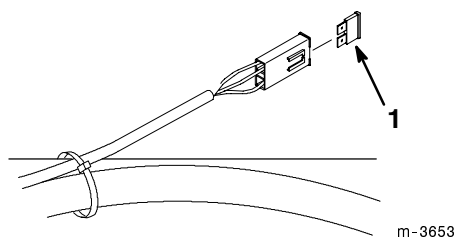

Figure 42
Fuse: Fuel Pump 10 amp, blade-type (Fig. 42)
Fuse: Engine Fuse 20 amp, blade-type (Fig. 42)
1. Locate fuses in the left rear of machine. Pull up plastic caps to gain access to fuses in holders (Fig. 42).
2. To replace fuses pull out on the fuse to remove it (Fig. 42).